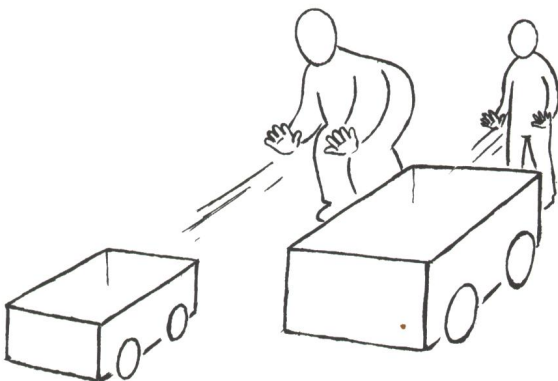

Figure 12. A large push on a small object will accelerate it rapidly, whereas a small push on a large object will accelerate it slowly.
2. An external force will cause a body to accelerate in the direction of the force. The acceleration (the change in speed per second) is proportional to the force and inversely proportional to the mass of the body ($a = F / m$). Put simply, this means that a large push on a small object will accelerate it rapidly, whereas a small push on a large object will accelerate it slowly (figure 12). (The first law is actually a special case of this one; when the forces acting upon the body are balanced, it will remain at rest or in uniform motion.)